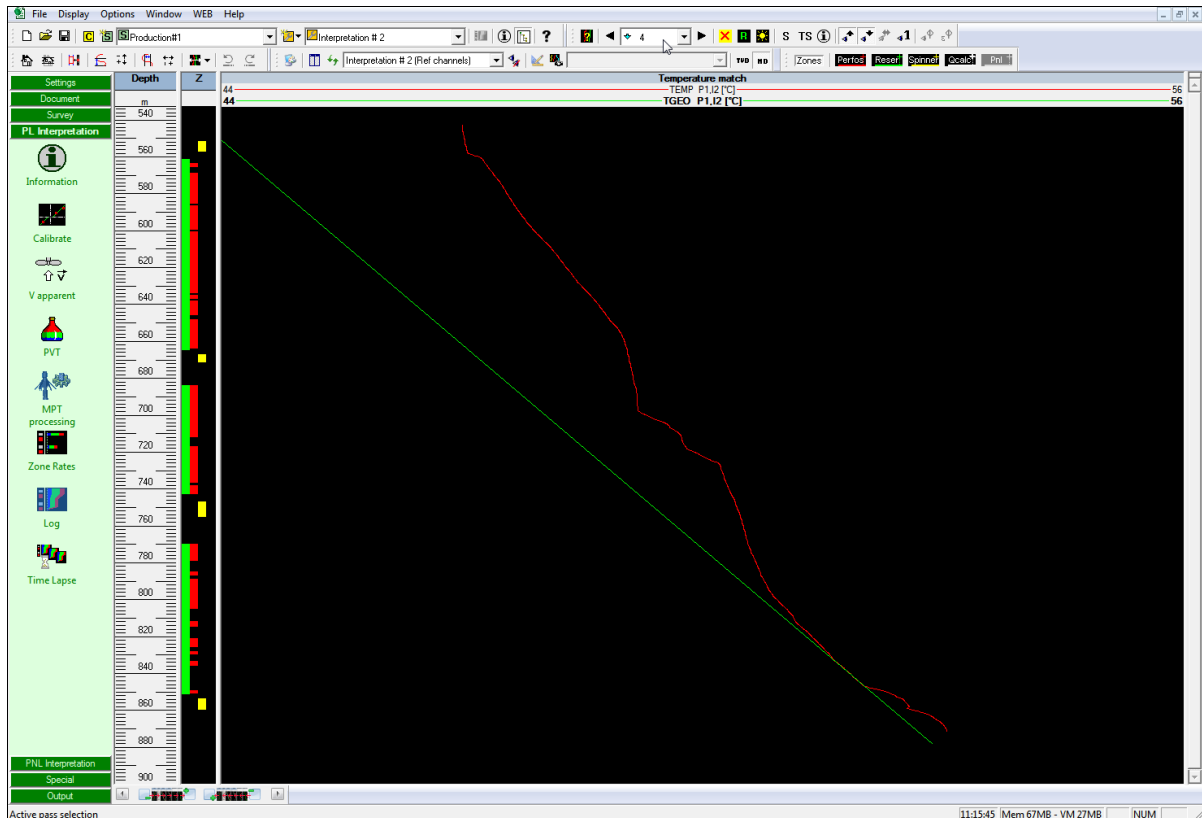

Fig. B04.14 • Defining the geothermal profile
- Click the mouse around 833 and drag to about 847 m. While dragging, the defined geothermal profile appears alongside the temperature channel, Fig B04.14.